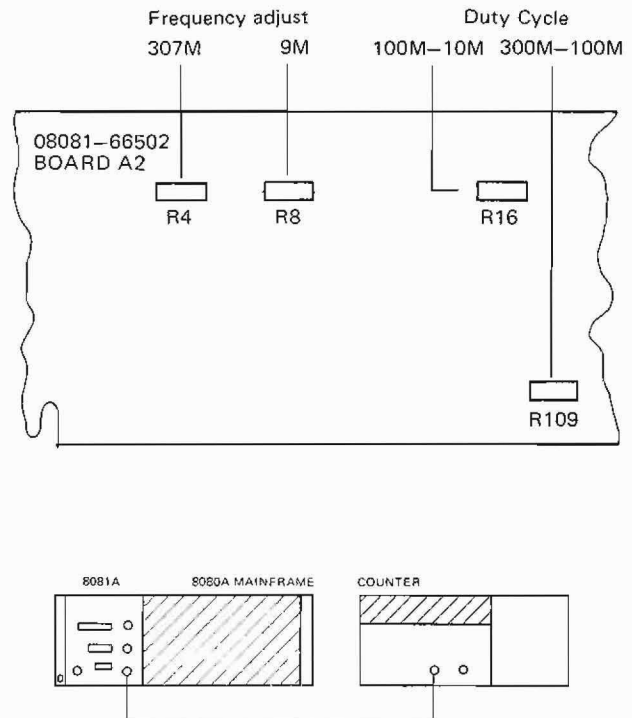

Figure 5-2. Frequency Adjustment Test Setup
- Set up the equipment as shown in figure 5-2 and set the controls as follows: